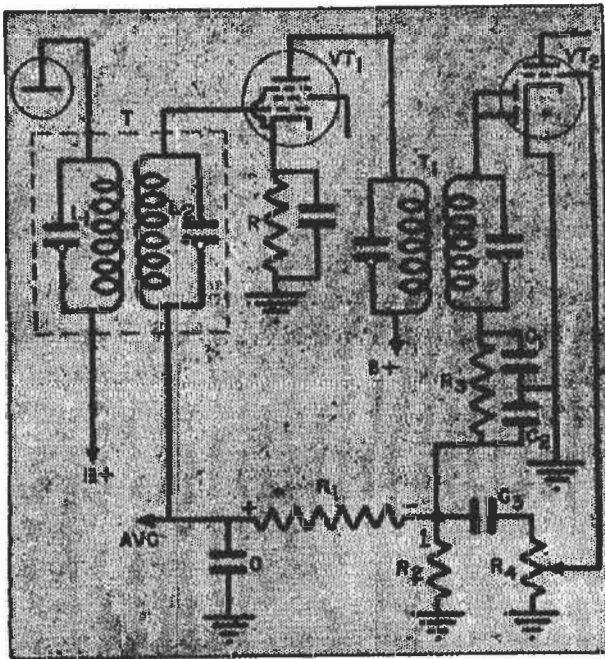

FIG. 8. An i.f. amplifier stage.
► However, an i.f. stage like that in Fig. 8 may cause distortion when overloaded. Suppose that a.v.c. filter con-
Audio Stages. Amplitude distortion is most commonly produced in the audio stages. Distortion caused by too much grid bias sometimes occurs in the first a.f. amplifier, which may be the triode section of VT_2 in Fig. 8. During rectification, a d.c. voltage is built up across diode load resistor R_2 , with point 1 negative with respect to ground. If coupling condenser C_3 becomes leaky, the d.c. voltage across R_2 will also appear across the volume control R_4 . Then, as the slider arm on the volume control is moved towards